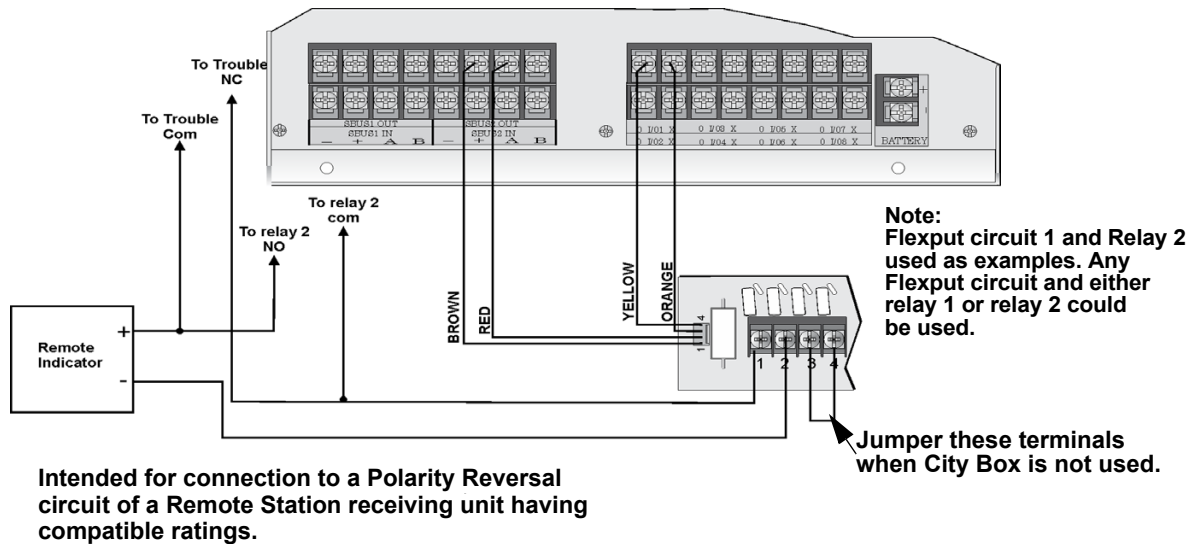

Figure 4-45 Polarity Reversal Connection Using the 5220 Module
2. Wire the 5220 to the control panel using the four-wire pigtail provided as shown in Figure 4-45. This diagram also shows how to connect the 5220 to the remote indicator. Do not install an EOL resistor in the terminals of the Flexput circuit used for this application.